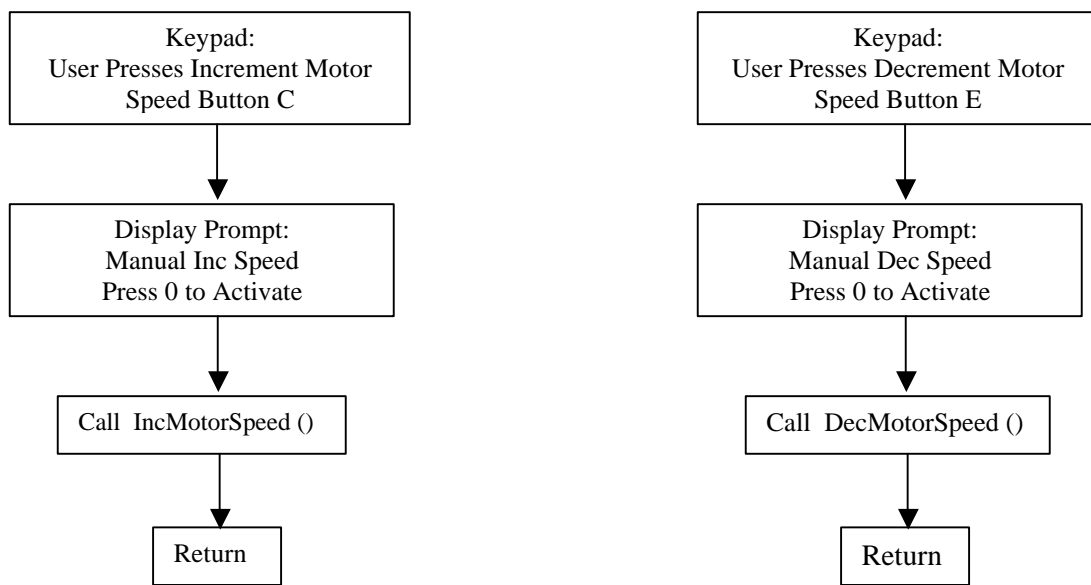

Figure 11.1
User is able to increment or decrement motor speed by one unit manually. If the user presses the Increment Motor Speed Button (C) the software flowchart on the left in Figure 11.1 is followed. The IncMotorSpeed () function is the same function that the Fixed Navigation Mode uses to increase the Motor speed by one unit. When this function is called it increases the PWM signal to the Electric Motor Subsystem, which increases the motor speed. If the user presses the Decrement Motor Speed Button (E), the software flowchart on the right in Figure 11.1 is followed. The DecMotorSpeed () function is the same function that the Fixed Navigation Mode uses to decrease the Motor speed by one unit. When this function is called it decreases the PWM signal to the electric motor subsystem which decreases the motor speed. At the end of both flowcharts there is a return, which means that both software modes return to the Check Control Variable in the Fixed Navigation Mode seen in Figure 19.1 in Appendix A.